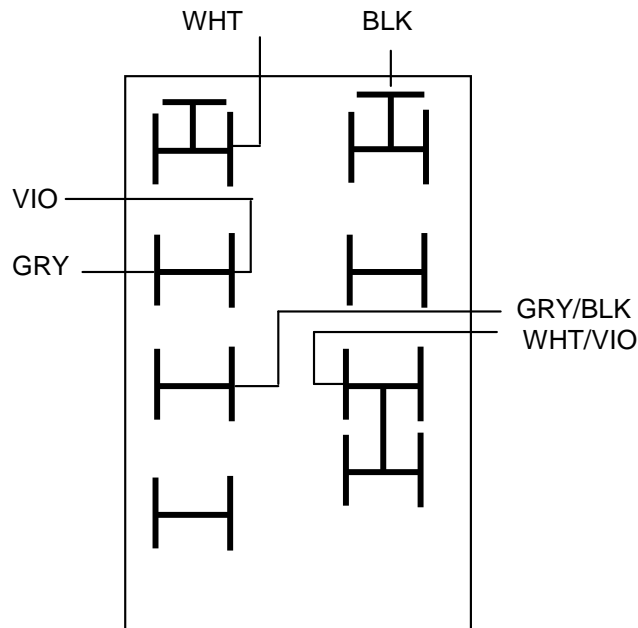

Fig. 4 Wired for 240VAC Operation
- Step 1: Wire transformer terminal block for 240V operation as shown in Figure 4.